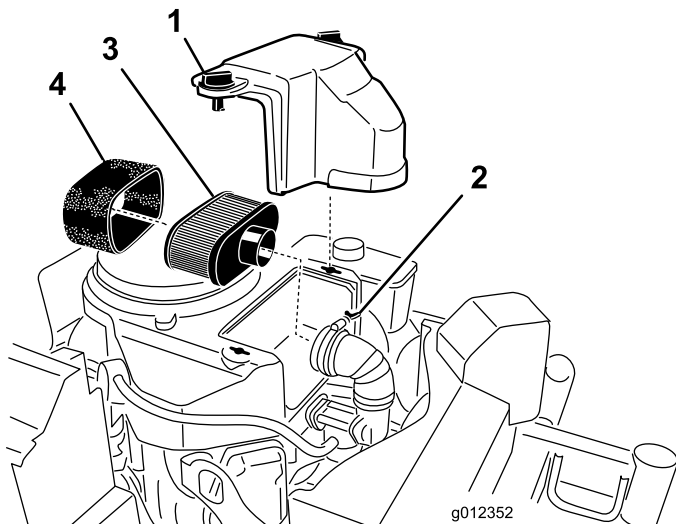

Figure 42
3. Clean around the air cleaner to prevent dirt from getting into the engine and causing damage (Figure 42).
4. Unscrew the cover knobs and remove the air cleaner cover (Figure 42).
5. Unscrew the hose clamp and remove the air cleaner assembly (Figure 42).
6. Carefully pull the foam element off the paper element (Figure 42).
1. Do not clean the paper filter, replace it (Figure 42).
1. Carefully slide the foam element onto the paper air cleaner element (Figure 42).
2. Place the air cleaner assembly onto the air cleaner base or hose and secure it (Figure 42).
3. Place the air cleaner cover into position and tighten the cover knob (Figure 42).